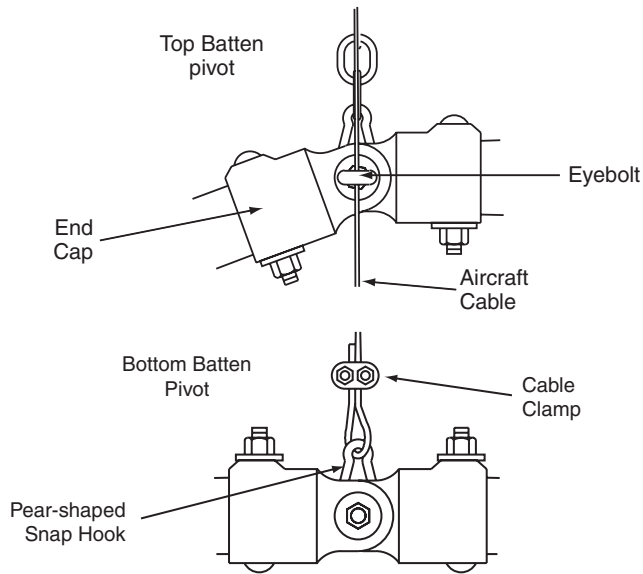

Figure 3
- ⑥ Thread cables through grommets in curtain.
- ⑦ Slide bottom batten into bottom pocket one section at a time, assembling as you go. **DO NOT USE EYEBOLTS ON BOTTOM BATTEN.**
- ⑧ At pivot points, pass cable through pear-shaped snap hooks. At other attachment points, cut a **small** slit in the upper part of the pocket and wrap cable once around 1 $\frac{5}{8}$ " bottom batten. Secure with cable clamps, and trim excess cable (see Fig. 3 on page 2).